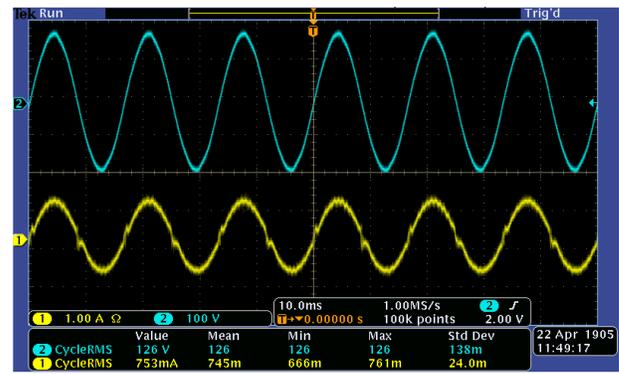

Figure 7. Output Volt and Current at 126-V_{RMS}, 60-Hz Grid Volt.
- Use the voltage and current probes to see the AC output voltage and current waveforms (set the probe to **1 A/div**). For an input voltage of 44-V DC and grid voltage of 125 V_{RMS}/60 Hz, the output waveforms should look like the ones shown in Figure 7.